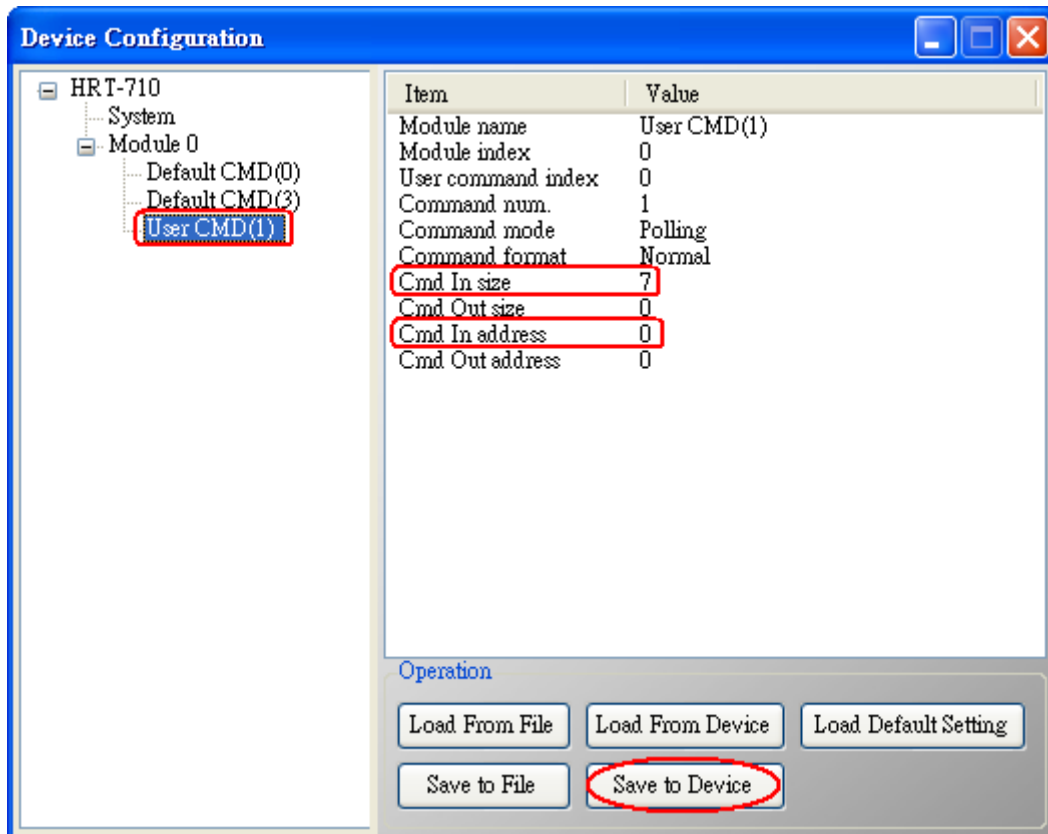

Figure 5-1 Add “User CMD(1)” of HART device to HRT-710
- (1) By using “HG_Tool” to add “User CMD(1)” of HART device and save settings to HRT-710. The Modbus start address and length of the “User CMD(1)” will show in the “Cmd In address” and “Cmd In size” field like Figure 5-1. In the example they are 0 and 7 (byte count=7 => word count=4).